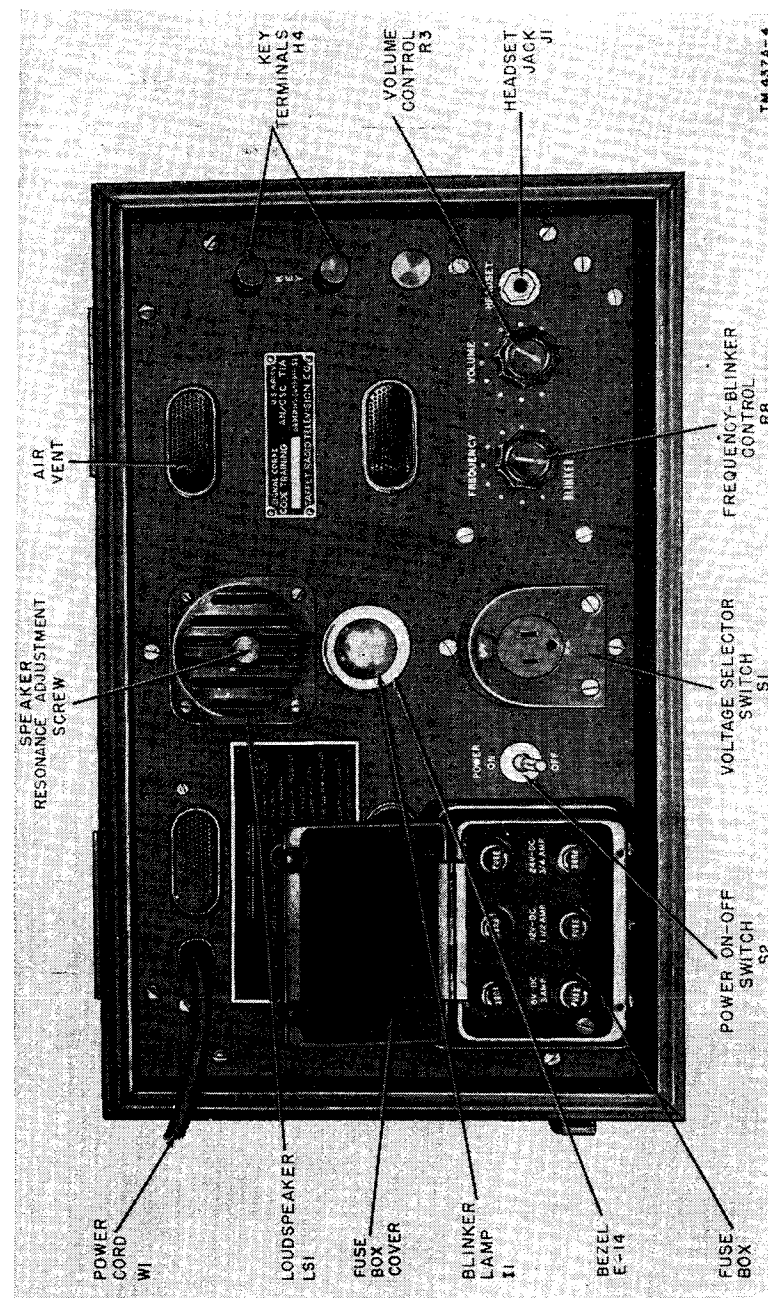

Figure 4. Control unit panel.
*a. Control Panel* (fig. 4). All operating controls are mounted on the front panel. At the top center of the panel is a 2½-inch permanent magnet (PM) loudspeaker. A speaker resonance adjustment screw is located in the center of the loudspeaker. The neon blinker lamp is positioned directly below the loudspeaker. Two binding posts
The table below lists the controls of Code Training Set AN/GSC-T1A and their functions. The location of these controls is shown in figure 4.
The table below lists the front panel connections of Code Training Set AN/GSC-T1A and their functions. The KEY terminals and the HEADSET jack are shown in figure 4.
- (1) Turn the speaker resonance adjustment screw out until the stop is reached.
- (2) With one of the transmitting keys in the closed or contact position, turn the FREQUENCY-BLINKER control until a suitable tone is heard.
- (3) Turn the VOLUME control to adjust the intensity of the signals to local operating conditions.
- (4) To increase the intensity of the audible signals, turn the speaker resonance adjustment screw on the loudspeaker (fig. 4) until the end of the screw begins to press the resonator button. The point of resonance is critical; adjust the screw carefully to produce resonance.